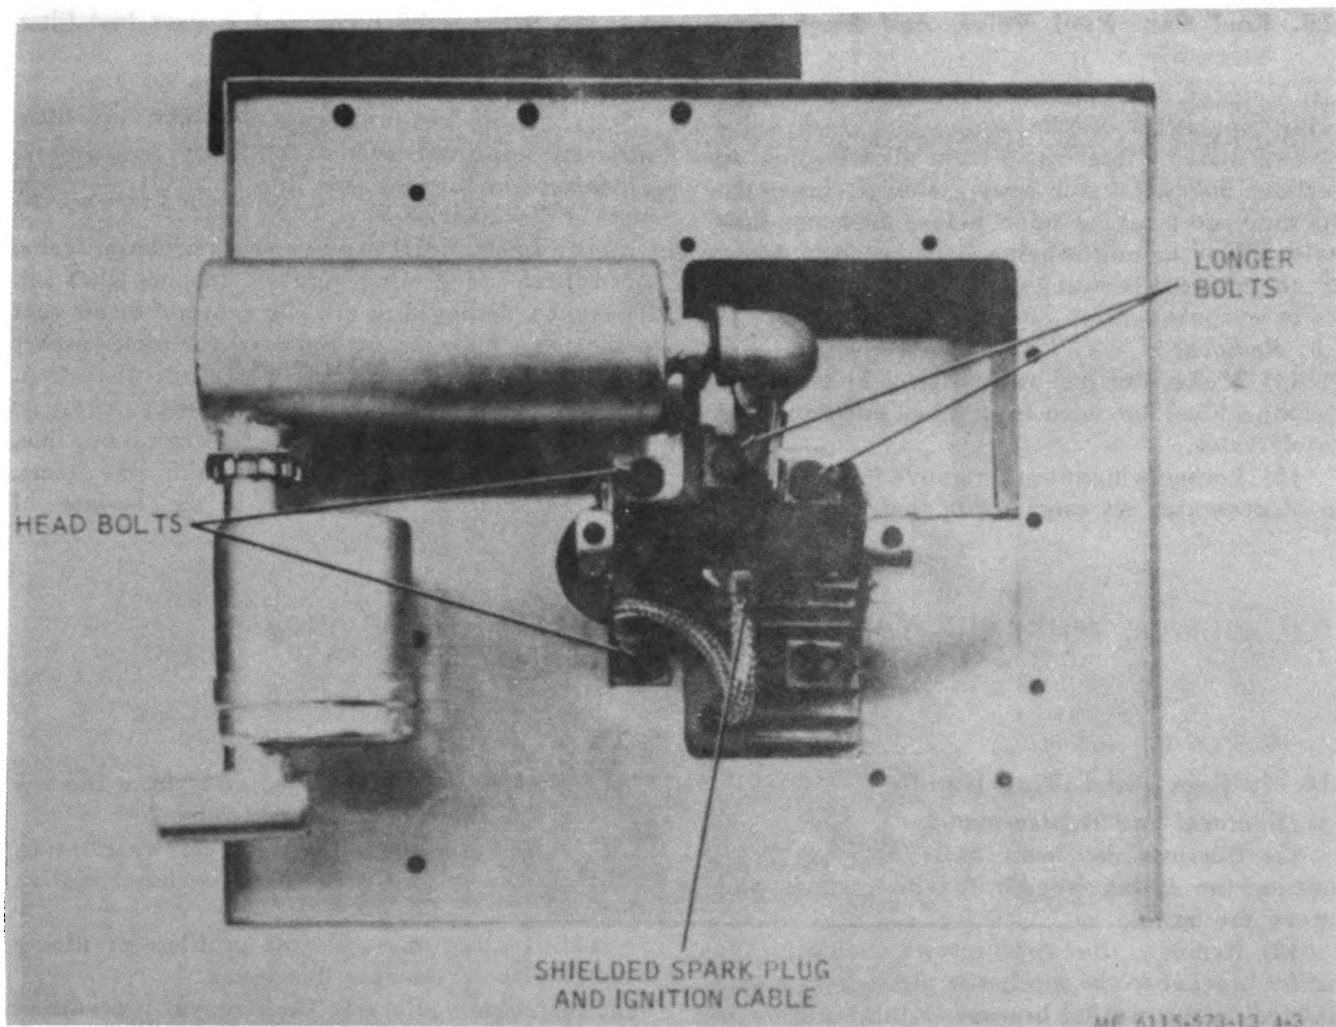

Figure 4-3. Interference suppression shielding.
a. Shielded Spark Plug. The generator set is provided with a shielded spark plug (fig. 4-3) to ground the stray currents of the engine ignition system.
b. Shielded Ignition Cable. The generator set uses a shielded ignition cable (fig. 4-3) to ground stray currents from the engine ignition system.
(1) Disconnect shielded ignition cable (fig. 4-3) from spark plug by loosening the nut.
(2) Remove spark plug from cylinder head.